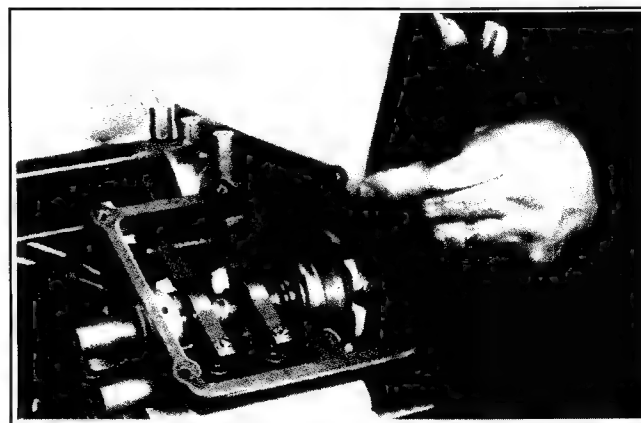

Figure 9-29. Driving Coiled Spring Pin Down.
2. Using a small punch, drive the coiled spring pin down about 5/8". See Figure 9-29.